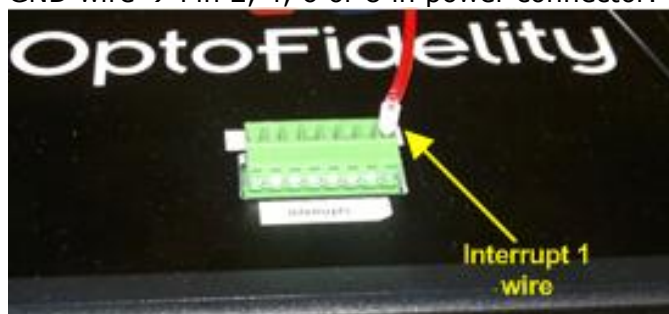

Figure 7: Interrupt wire of optical sensor connected to Interrupt Connector.
- If using 1-finger tool, the interrupt wires from optical sensor are connected as follows (Fig. 7):